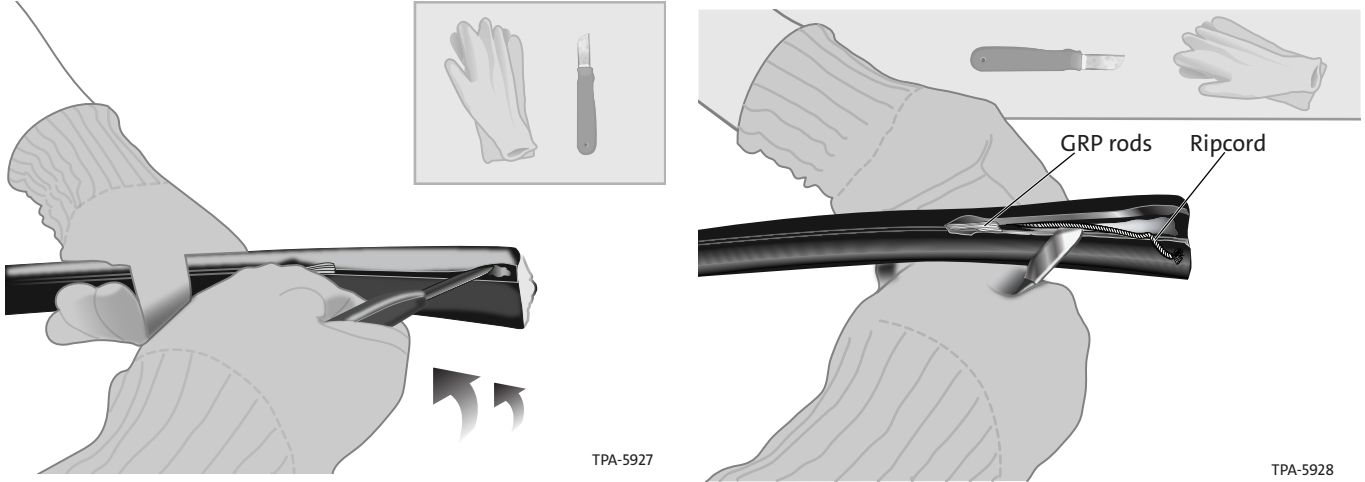

Figure 5
Step 3: Remove GRP rods and access the ripcord (Figure 5).